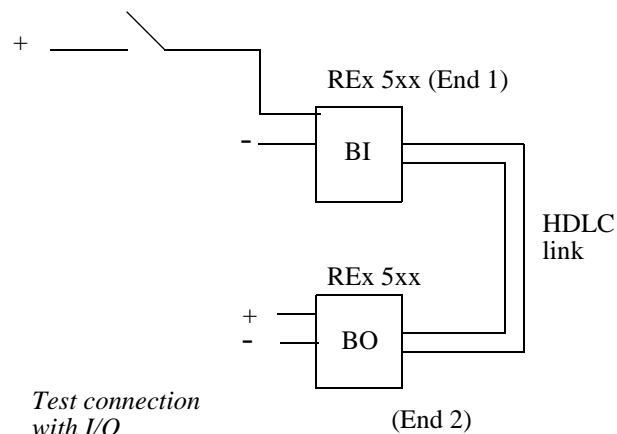

Figure 2: Test of RTC with I/O.
A test connection is showed in figure 2. A binary input (BI) is connected to a RTC function input in end1, for example RTC1-SEND01, and in the other end a binary output (BO) is connected to the received function output, for example RTC1-REC01. The binary signal is transferred to the remote end (end2) through a HDLC link.